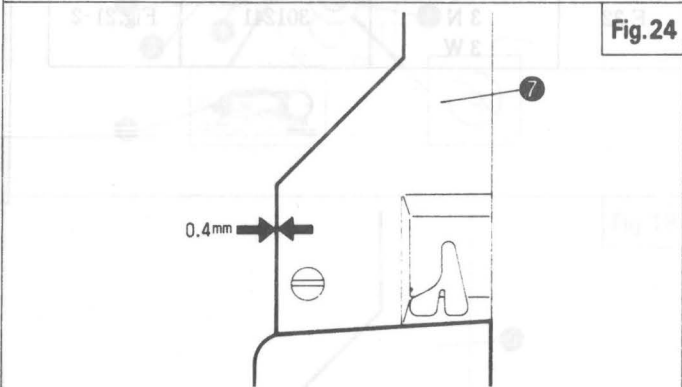
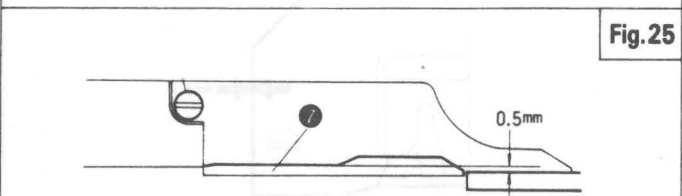

Fig.24
Fig.25
- When pin ① is fitted, fasten screw ② so that it locates in the center of the long hole.
- The position of the chain cutter should be adjusted after fitting the needle plate and cloth plate by loosening screw ⑥. When the chain cutter is in the correct position, the clearance around the cloth plate guide ⑦ as well as the clearance between the cloth plate and needle plate should be 0.4mm (See Fig.24). Note too, that the cloth plate guide ⑦ should be installed in such a way that its upper surface is 0.5mm higher than the upper surface of the needle plate (See Fig.25).